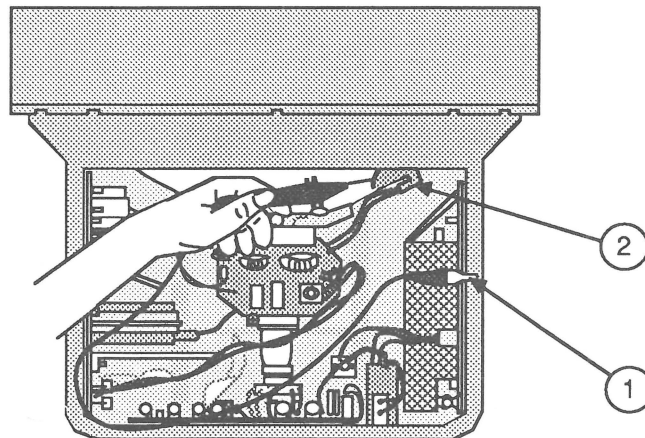

FIGURE 7
4. Attach the clip of the CRT discharge tool to the side of the chassis (Figure 7, #1).
6. Hold the CRT discharge tool to the tube surface, and insert its probe under the anode cap (Figure 7, #2) until it touches the anode ring.